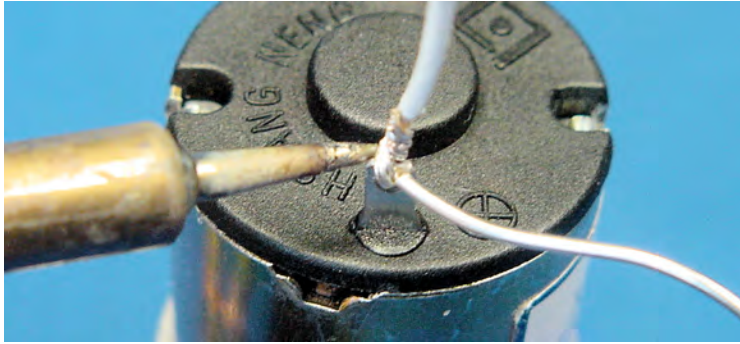

Figure 22-5. Soldering iron tip on one side of the wire, solder on the other side of the wire
9. Touch the soldering iron tip to one side of the motor terminal and wire, directly at the point of connection (see Figure 22-5). It is important to make as much contact with the clean, tinned tip so that heat transfers to the wire and motor terminal.